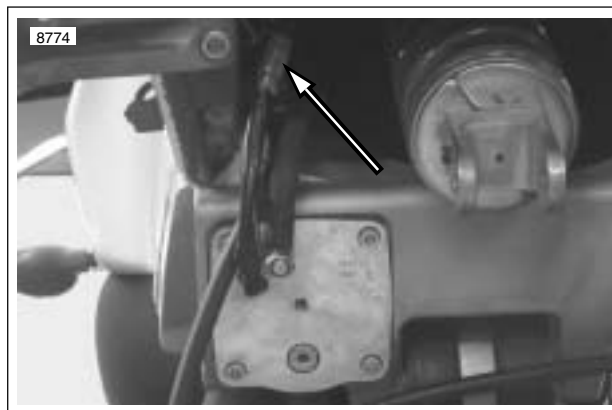

Figure 4-22. Fuel Pump Connector [86] (swingarm removed for illustration)
- a. See Figure 4-22. Disconnect the 4-place fuel pump connector [86]. The connector is located inside the left rear portion of the fuel tank/frame.
7. See Figure 4-22. Attach fuel pump connector [86] to main wiring harness.